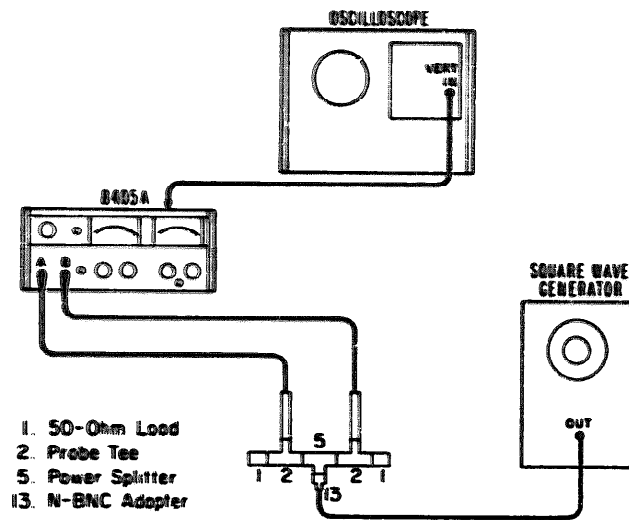

Figure 2F. Setup for Pulse Generator and Sampler Adjustments
a. Connect test equipment as shown in Figure 2F.